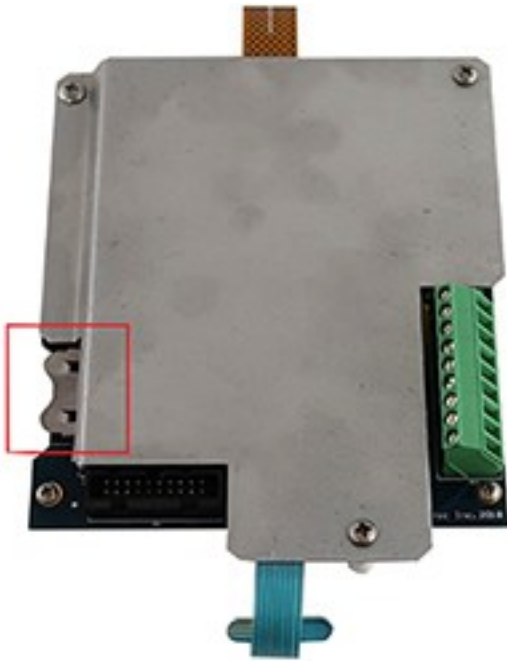

FIGURE 8-1. Lithium battery location
1. Open the swing panel located at the bottom-left edge of the plate that protects the circuit board below the USB port (FIGURE 8-1 (p. 41)).